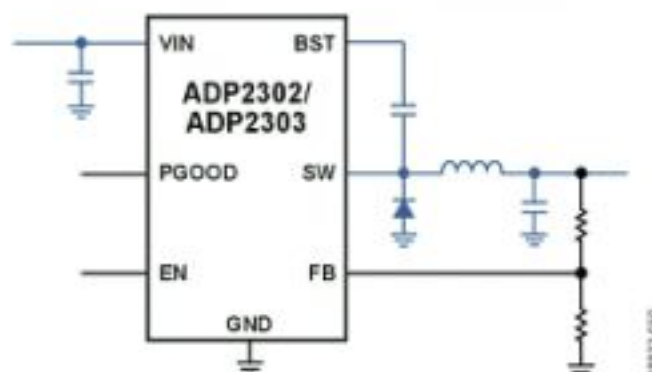

Figure 52. Typical Application Circuit with High Current Lines Shown in Blue
- Ensure that the high current loop traces are as short and wide as possible. The high current path is shown in Figure 52.